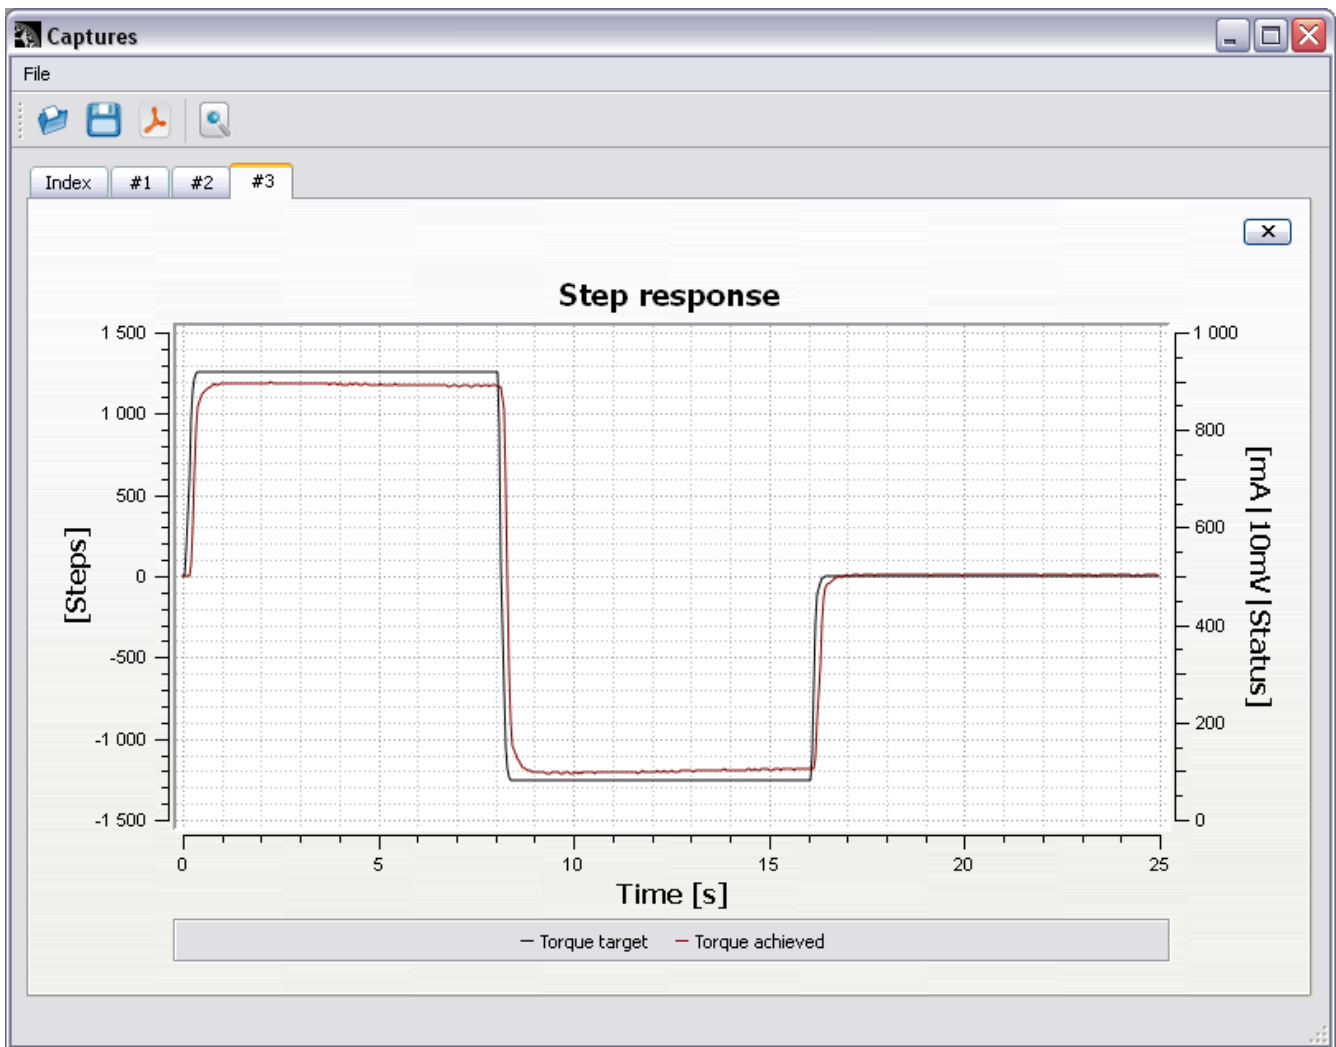

Figure 3: Correct torque P-gain value
- If you get response that resembles Figure 3, (fast rise and no overshooting or oscillating edges) you have optimal **Torque P gain** and should proceed forward.